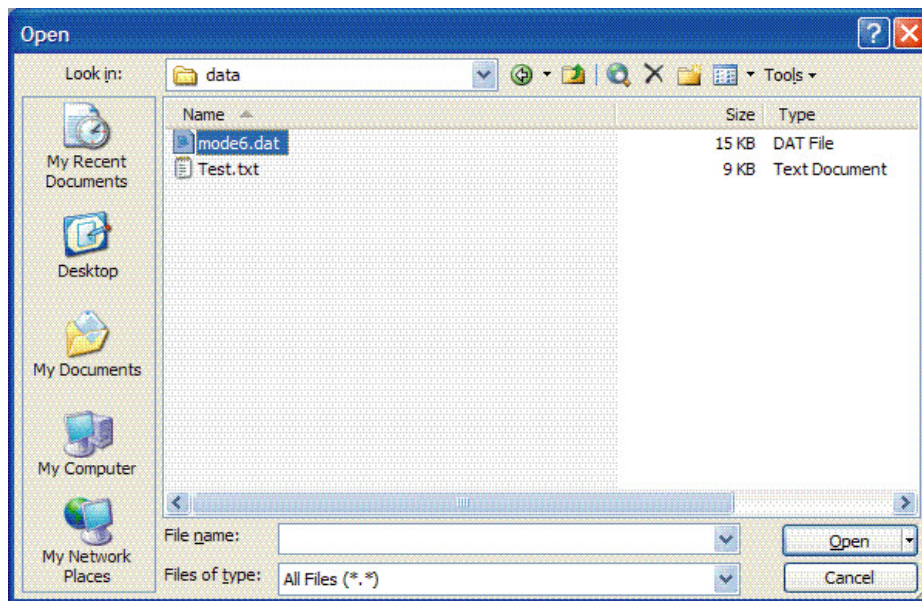

Figure 3–6 Opening a data file in Excel
1. In Excel, click **Open** and choose the name of the spectrum file saved while in **Mode 6**. Be sure to select **All Files (*.*)** under **Files of type:** while searching, as shown in Figure 3–6 below.
2. The **Text Import Wizard** should open. Choose the **Delimited** option and click **Next**, as shown in Figure 3–7 on page 3–9.